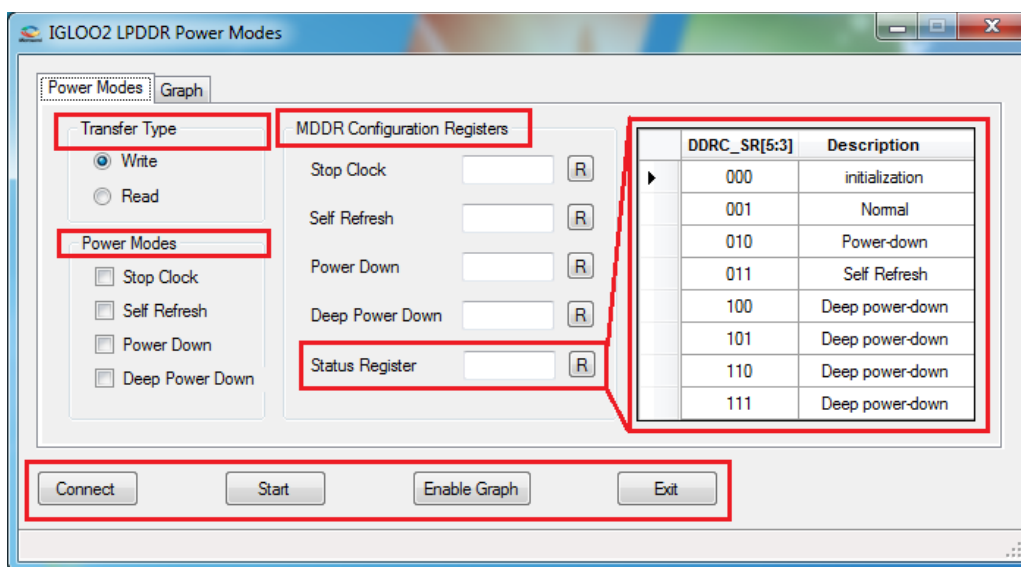

Figure 16 • IGLOO2 LPDDR Power Modes
The example design has a Windows GUI and `IGL2_LPDDR_LP.exe` that run on the host PC to communicate with the IGLOO2 Evaluation Kit board. The UART protocol is used as a communication protocol between the host PC and IGLOO2 Evaluation Kit board. Figure 16 shows the initial screen of the GUI.
- Click the **Power Modes** tab. The **Power Modes** window is displayed, as shown in Figure 16.
- Click **R** to read back the content of **MDDR Configuration Registers**. The **Status Register** displays the current operational mode on the right pane of the GUI, as shown in Figure 16.